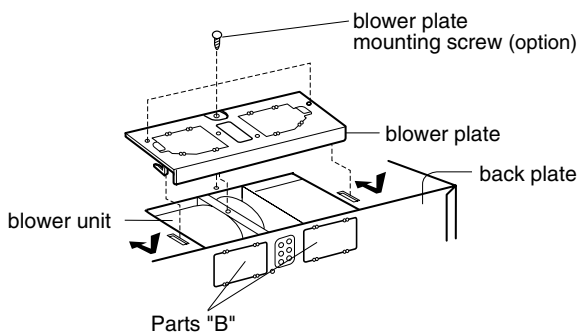

Figure 19
5. Reattach blower plate to microwave oven. Attach with the blower unit mounting screw and then the blower plate mounting screws. See Figure 19.